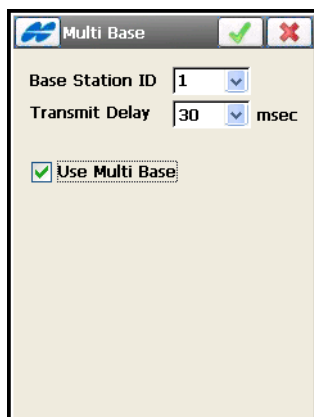

Figure 8-8. Multi Base
- Select *Multi Base* from the menu in the upper-left corner of the *Start Base* screen. The *Multi Base* screen displays (Figure 8-8).
Select the *Base Station ID* and *Transmit Delay*. For example, select 11 as the Base Station ID and select 30 *msec* for the Transmit Delay (Figure 8-8). With transmission delays, the bases are allowed to broadcast multiple RTK data on the same frequency.